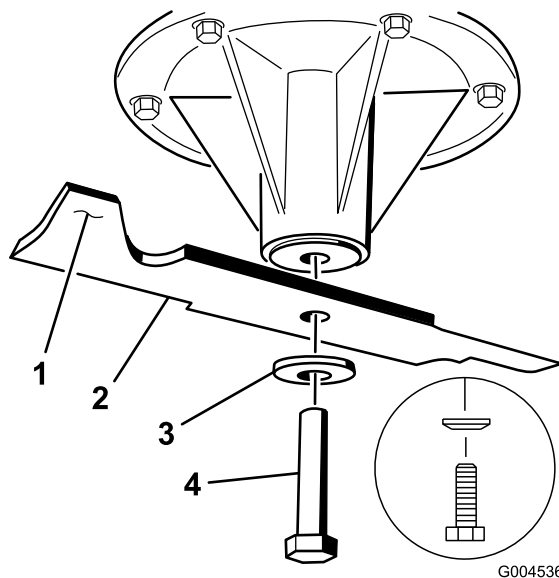

Figure 100
2. Remove the blade bolt, the curved washer, and the blade from the spindle shaft (Figure 100).